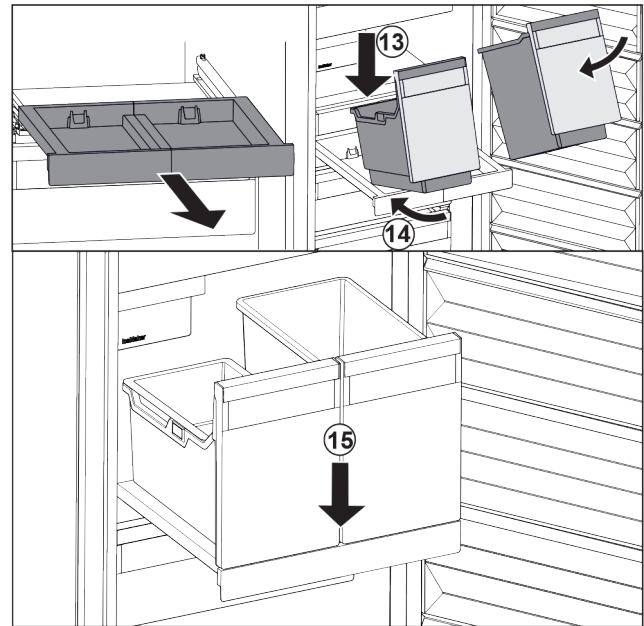

Fig. 90
- ▶ Place the container at an angle on the pull-out board. Fig. 90 (13)
- ▶ Slide in the container at an angle to the back. Fig. 90 (14)
- ▶ Place container at the front. Fig. 90 (15)